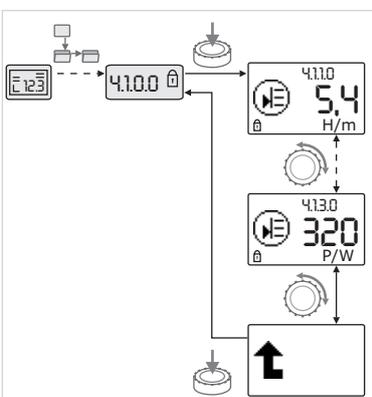

Fig. 37: Calling up information
- Turn the red button to access the “Information” menu elements in the current sub-menu (see Fig. 37). For an explanation of the settings represented by the symbols, see the table in chapter 8.7 “Menu elements reference” on page 87.